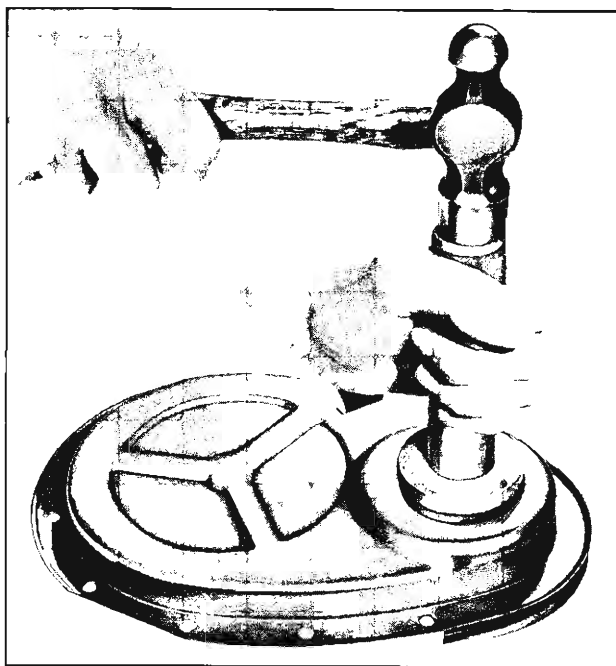

Fig. 77—Installing Oil Seal
2. Install new seal so that open end of the seal is toward the inside of cover and drive it into position with Tool J-996 (fig. 77).